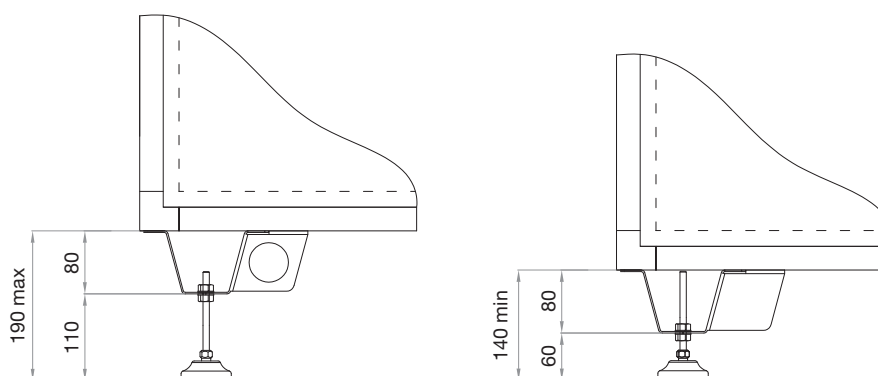

Figure 10
- Unit without support base frame – size CompAir 1000 to 4000 (Fig. 10)